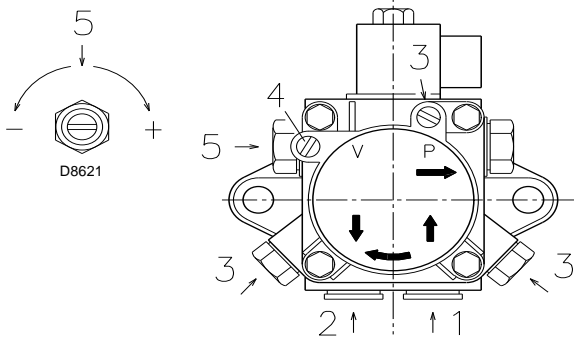

Fig. 20
For the priming pump loosen the screw 3)(Fig. 20) in order to bleed off the air contained in the suction line and wait until the fuel flows out.
Key (Fig. 20)
- In order for self-priming to take place, one of the screws 3) (Fig. 20) of the pump must be loosened in order to bleed off the air contained in the suction line.